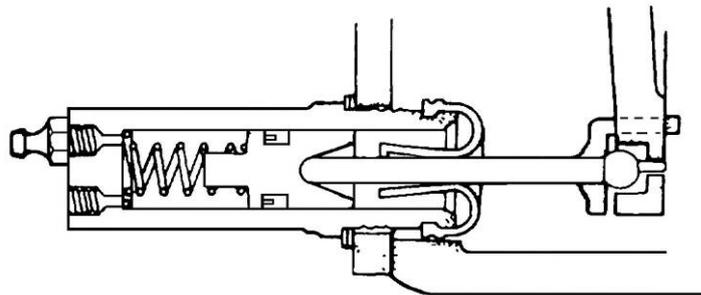

Figure 63 Installation of the Slave Cylinder
- l. Smear the inside of the dust cover with clean hydraulic fluid and install the dust cover on the cylinder. Install the slave cylinder into the transmission bell housing, ensuring that the push rod is inserted into the dust cover (Figure 63), and the bleed screw is uppermost.